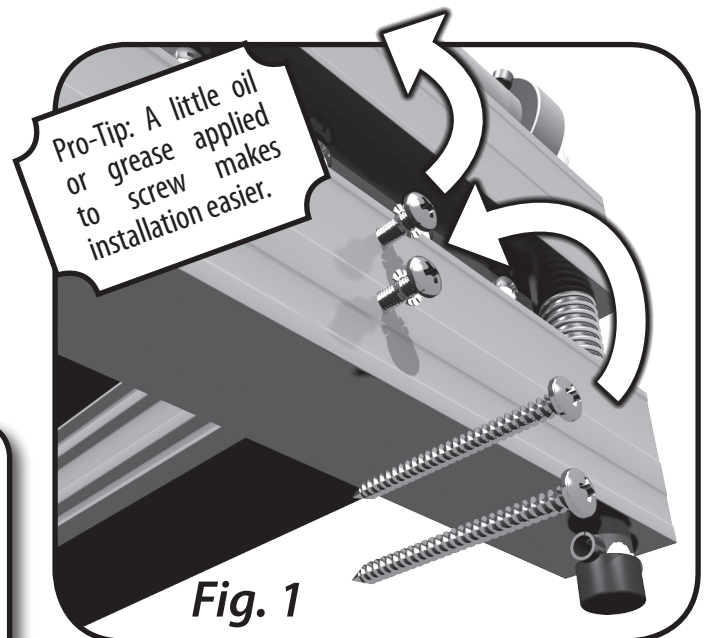

Fig. 1
Bullet Tools recently redesigned our aluminum rail system. After considerable field-testing and listening to customer feedback, we have decided to upgrade the fasteners in the assembly of some machines to a longer version to prevent the rail from detaching from the head in certain circumstances. Included are the upgrade replacement screws for the head-end of the rails. (See Fig. 1). These must be installed on all affected machines.
ES009	Replace (2) screws in assembled machine (See Fig. 1 & Fig. 2)
113FLR	Replace (4) screws in assembled machine (See Fig. 1 & Fig. 2)
213SID	Replace (4) screws in assembled machine (See Fig. 1 & Fig. 2)